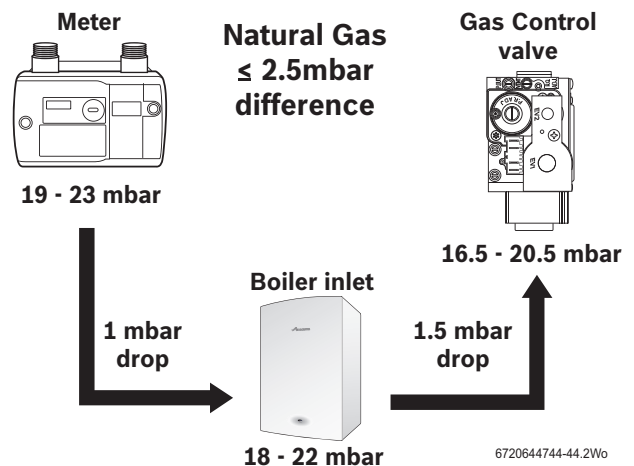
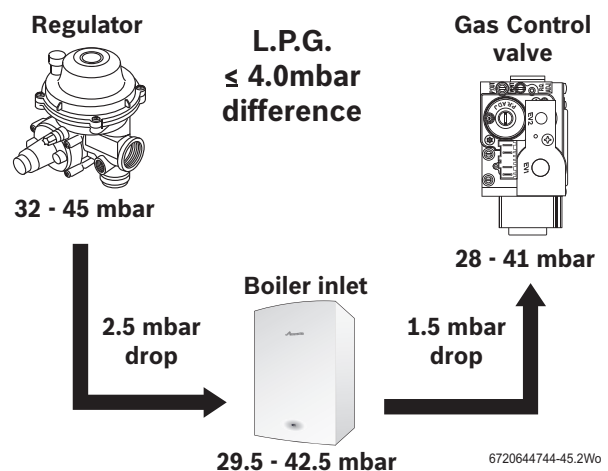

Fig. 67 Natural gas pressures
Fig. 68 L.P.G. pressures
- ▶ Slacken the screw in the inlet pressure test point (1) and connect a manometer.
- ▶ Check the gas supply working pressure at the gas valve conforms to values shown in Fig. 67 or Fig. 68.